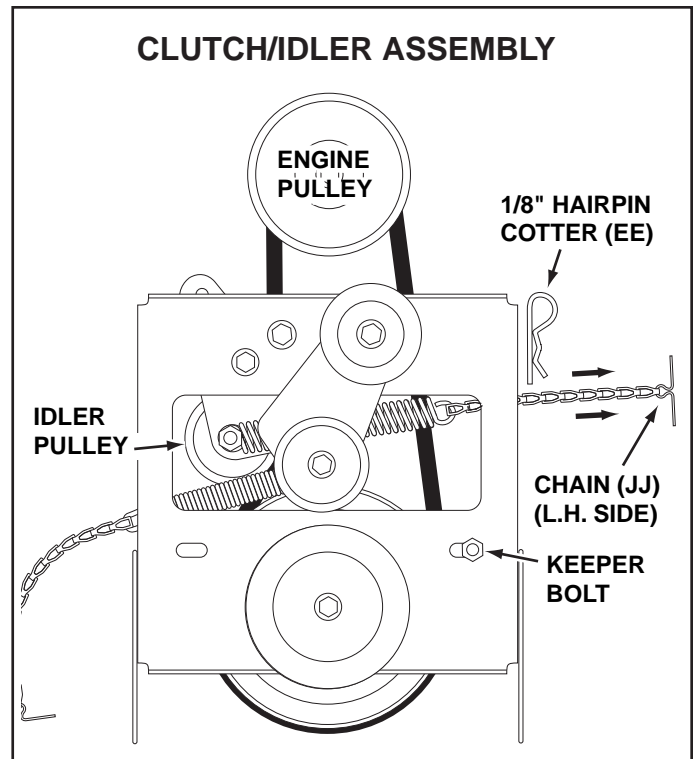

FIGURE 19 VIEWED FROM UNDERNEATH
STEP 20: (SEE FIGURE 19)
- Place tension on the belt by pulling the left side tensioning chain (JJ) out as far as the 3/32" hairpin cotter in the chain will allow. Secure the chain in this position by inserting a 1/8" hairpin cotter (EE) through the chain.